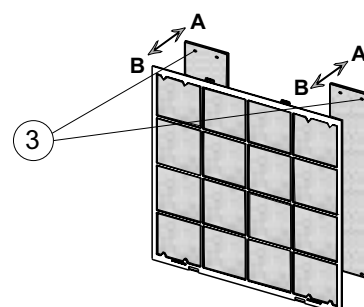

Figure 3
- Remove and replace the purifying and electrostatic filter (3) (see figure 3).